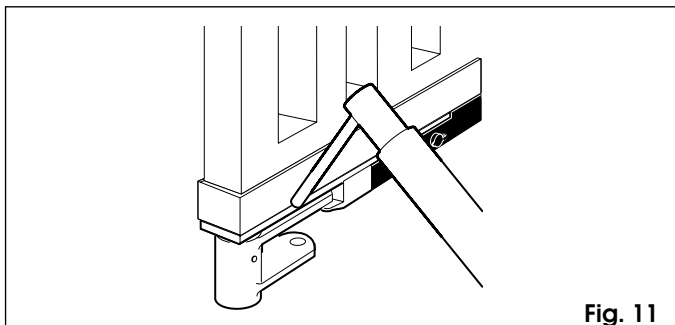

Fig. 11
- 3) Carefully weld the guide bracket to the support bracket (fig. 11).